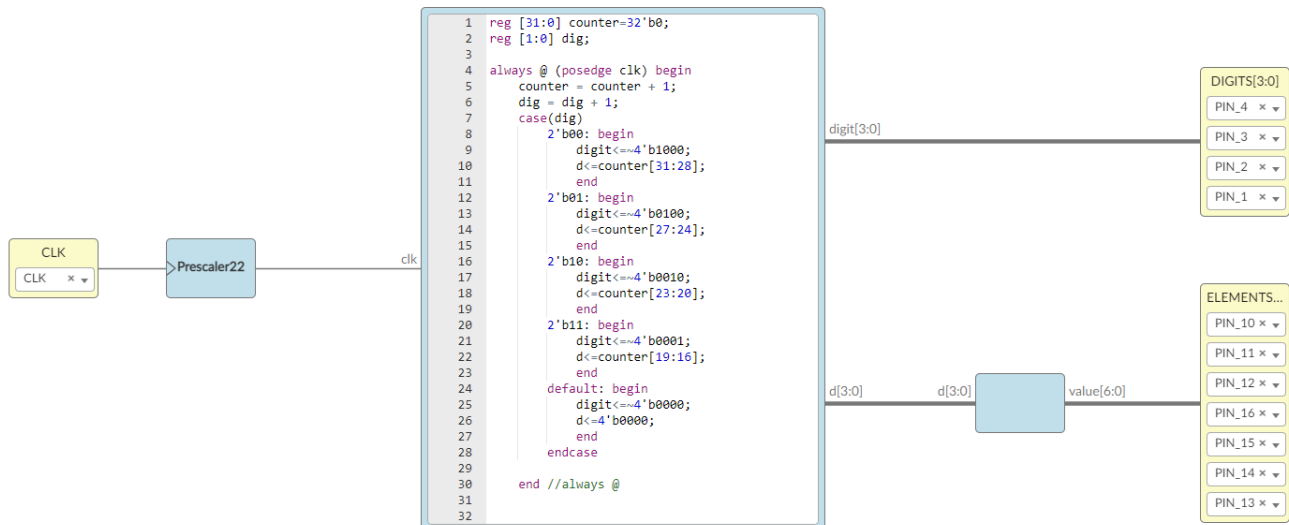

Figure 9. The control code for the display multiplexer.
- Uses a case statement to do the following (try to write it yourself; look at Figure 9 if stuck):